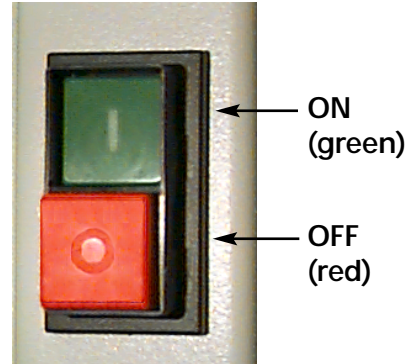

Figure 1-17
1. Figure 1-17 shows the power in the ON position. Turn the power OFF before connecting ANY cables.